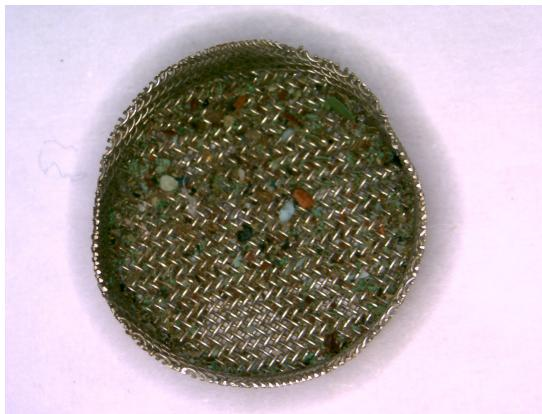

Figure 57: Picture of the filter before cleaning.
- Clean filter with water and by blowing pressurized air against the flow direction (available e.g. in the workshop). Figures 57 and 58 show the filter before and after cleaning.